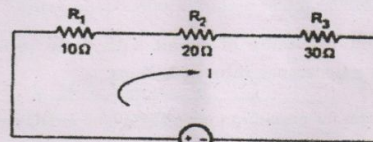

Fig. 3
- (ii) Find the voltage across the three resistances shown in the Fig. 3.